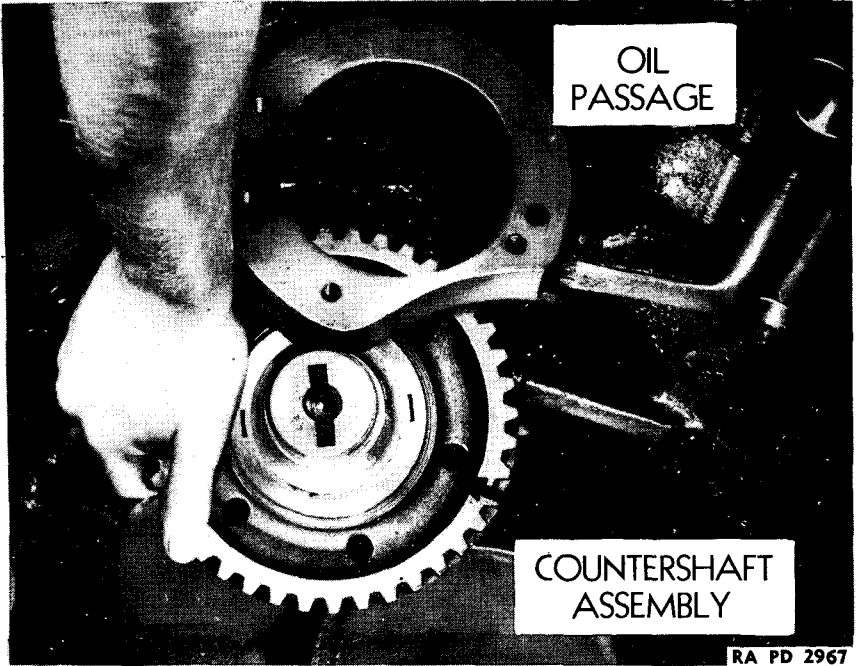

FIGURE 37 - REMOVING COUNTERSHAFT ASSEMBLY
(22) Remove countershaft assembly (*fig. 37*). With output shaft assembly removed from transmission case, countershaft assembly can be lifted out.